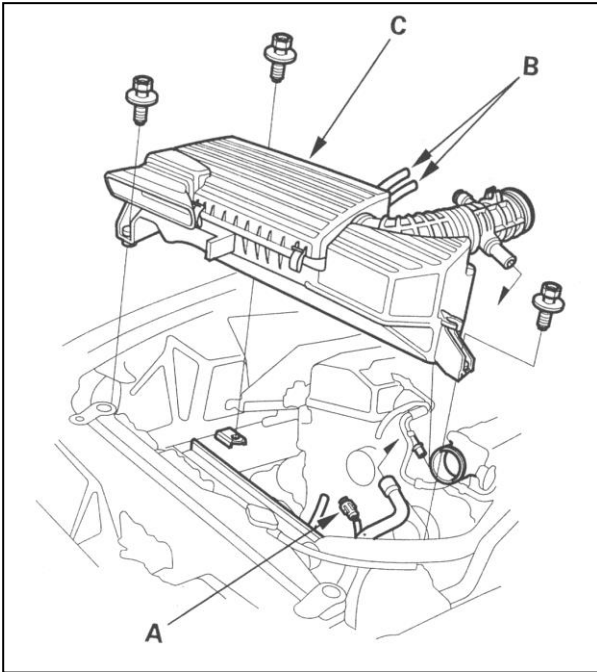

Fig.1
- a. Disconnect the Air Control Solenoid Valve Connector (A), then remove the vacuum hoses (B), loosen the throttle body hose clamp, loosen the three mounting bolts, and remove the air cleaner housing/intake duct (C) assembly. **(Fig. 1)**